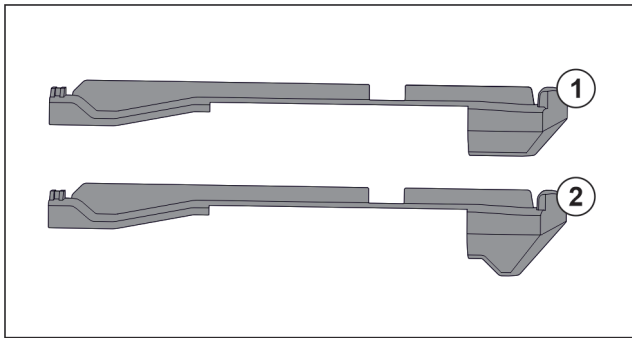

Fig. 124 Comparing attachments
There are two different attachments in the appliance. The attachment above the lowest drawer *Fig. 124 (2)* has a three-cornered edge. All other attachments *Fig. 124 (1)* have a straight edge.
- ▶ Fit attachment *Fig. 124 (2)* with the three-cornered edge above the lowest drawer.
- ▶ Fit attachment *Fig. 124 (1)* with straight edge in all other positions.